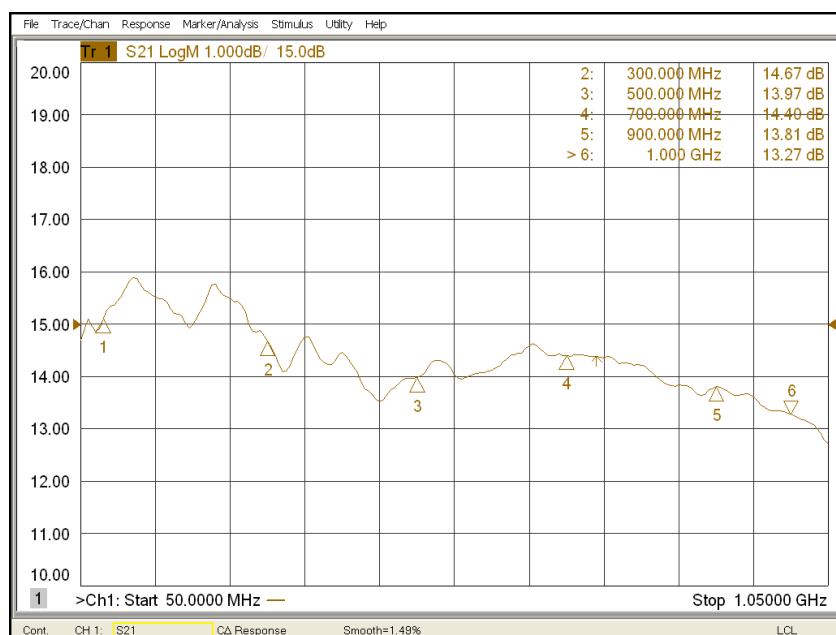

Figure 4-3. Input of Two-Way Splitter to RF Output
- Phase matching must be maintained from the input of the A3 Two-Way Splitter to the inputs of the A22 16-Way Combiner Figure 4-3; if coaxial cables are removed, they must be reinstalled in the same locations from which they were removed. Replacement coaxial cable assemblies must be the same lengths as the original ones.